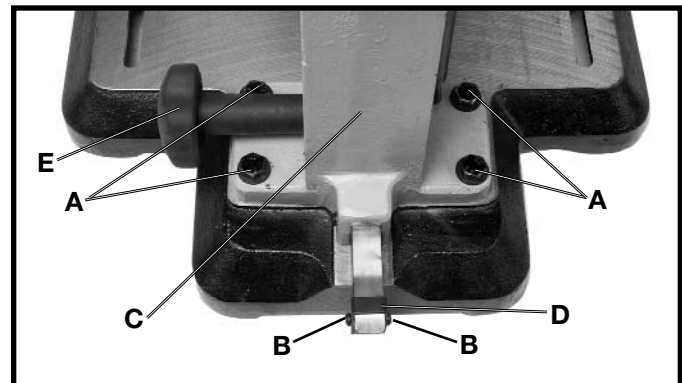

Fig. 16
1. Remove the two screws (B) Fig. 16, from the rack cover bracket and remove the rack cover bracket (D).
2. Remove the four screws and flat washers (A) Fig. 16.
3. Rotate handle (E) until the column assembly (C) Fig. 16, moves off the back of the rack and base.